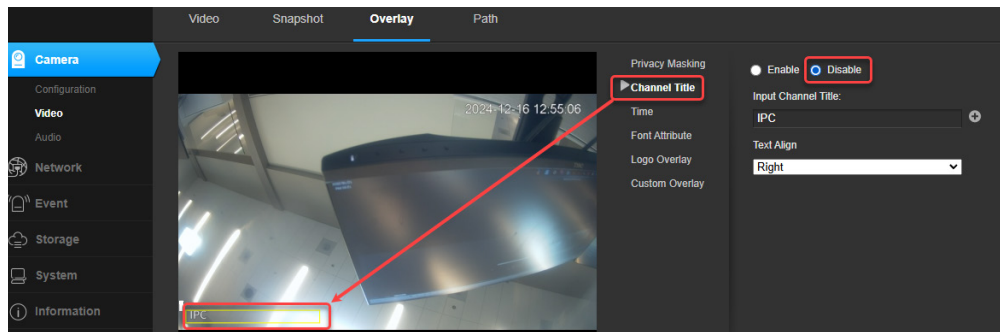
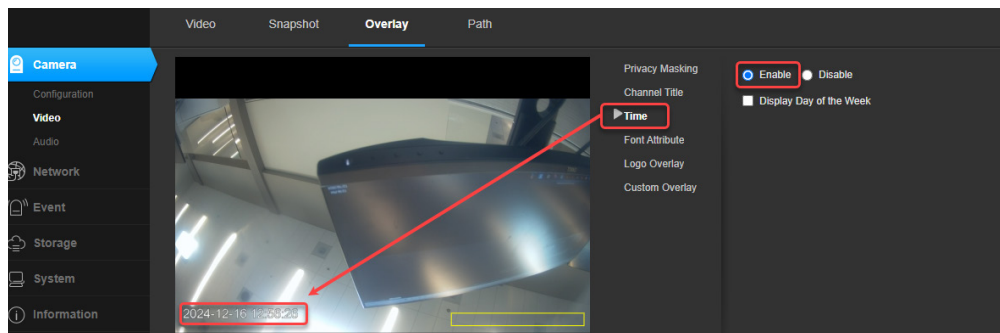

Fig. 2.7
Fig. 2.8
6. Go to Camera>Overlay (Fig. 2.7). Ensure that no Overlay data obscures the camera view. Move or Disable the Channel Title or Time as necessary. Save settings if modified.
- Checking Disable on an overlay feature makes it disappear from the camera feed. For example, the Channel Title is “Disabled” in Fig. 2.7, so it is no longer visible in Fig. 2.8 once saved.
- To reposition the Time, leave the Overlay feature “Enabled” grab the onscreen Time, and drag it to a new location on the camera feed. For example, Time is still “Enabled” in Fig. 2.8 but was moved from its original location in the upper right corner of Fig. 2.7 to the lower left in Fig. 2.8.